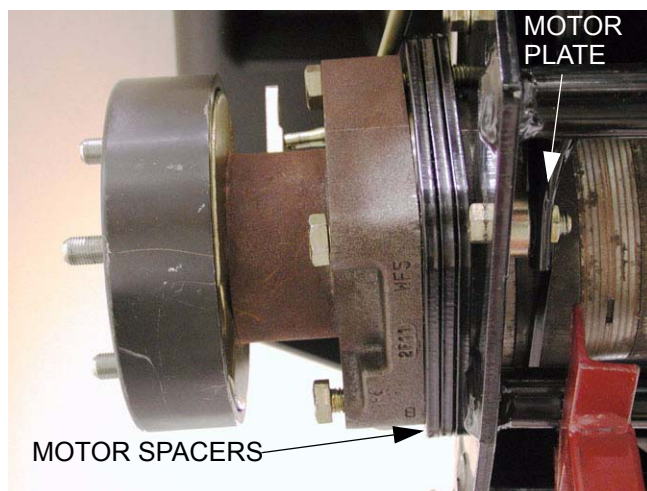

Figure 6.15
- 6.15. Lift the motor slightly and carefully pull it out far enough to remove the motor plate from the end of the four bolts. See Figure 6.15.